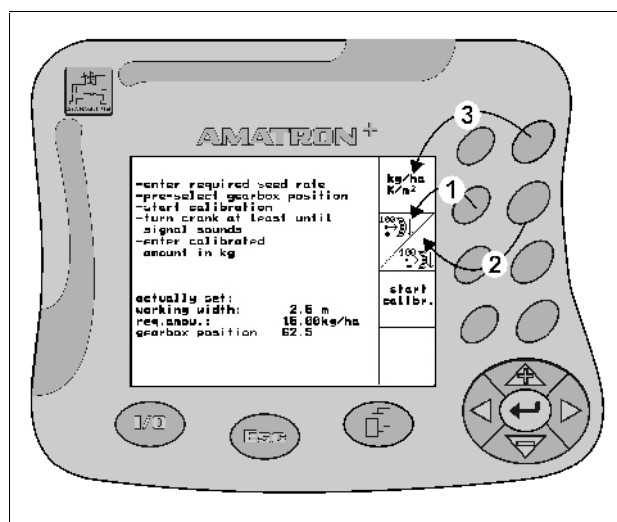

Fig. 9
- the left hand key relates to the top left function icon (Fig. 9/1).
- the right hand key relates to the bottom right hand function icon (Fig. 9/2).
If a complete icon appears on the display only the right hand key relates to that function (Fig. 9/3).